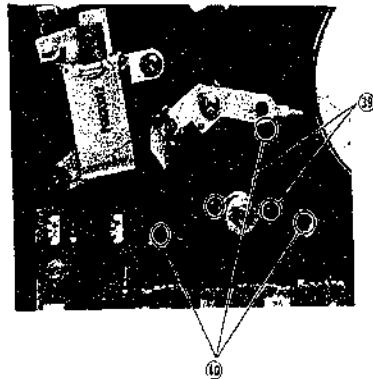

Fig. 35
38 2 screws. (Fig. 35, 36)
- 2) 40 4 screws. (Fig. 35, 36)